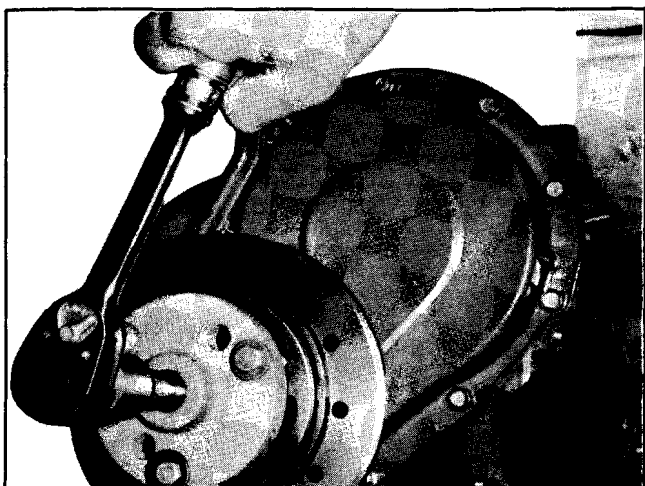

Fig. 6-41 Removing Harmonic Balancer
4. Install tool J-6978 to balancer and turn puller screw to remove balancer (Fig. 6-41). Then remove tool from balancer.